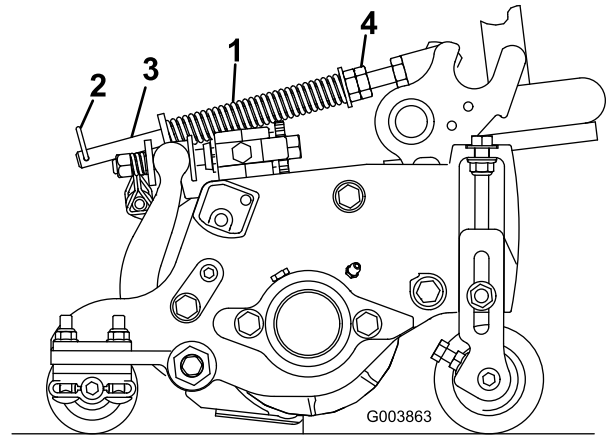

Figure 14
2. Tighten the hex nuts on the front end of the spring rod until the compressed length of the spring is 12.7 cm (5 inches) on Reelmaster 5410 (5-inch cutting units) or 15.9 cm (6.25 inches) on Reelmaster 5510 (7-inch cutting units); refer to Figure 14.
The turf-compensation spring (Figure 14) transfers weight from the front to the rear roller. This helps to reduce a wave pattern in the turf, also known as marcelling or bobbing.
1. Make sure the hairpin cotter is installed in the rear hole in the spring rod (Figure 14).